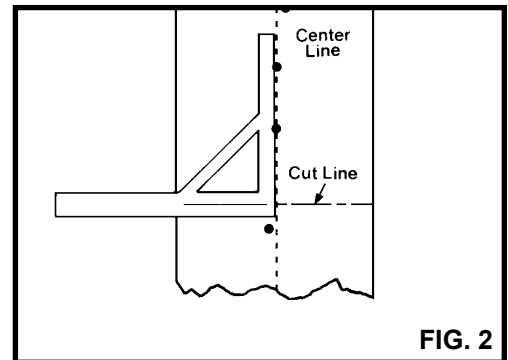

FIG. 2
- Connect the hydraulic pump to the lacer via the quick connect coupling (Fig. 2).
- c. Using either a steel rule or a chalk line, mark the average center line through the points measured in Step 2 (Fig. 2).
- d. Using a square, draw a line perpendicular to the average center line across the belt width (Fig. 2).